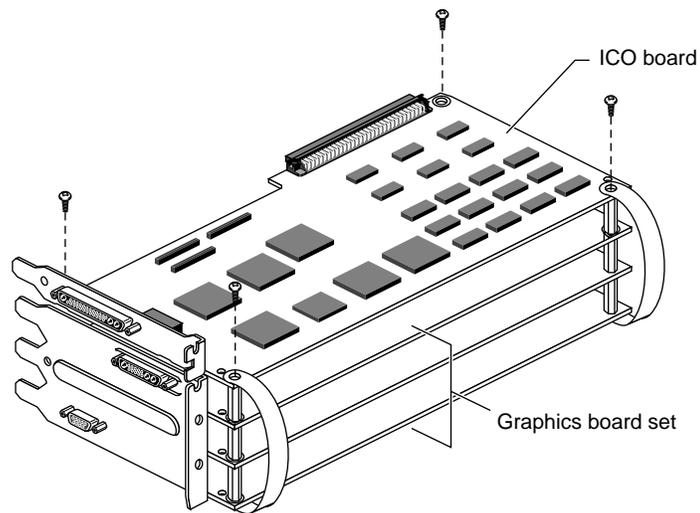

Figure 1-31 Removing the Standoff and Pull Strap Screws
3. Remove the screws from the four corners of the Indigo² ICO board. See Figure 1-31.